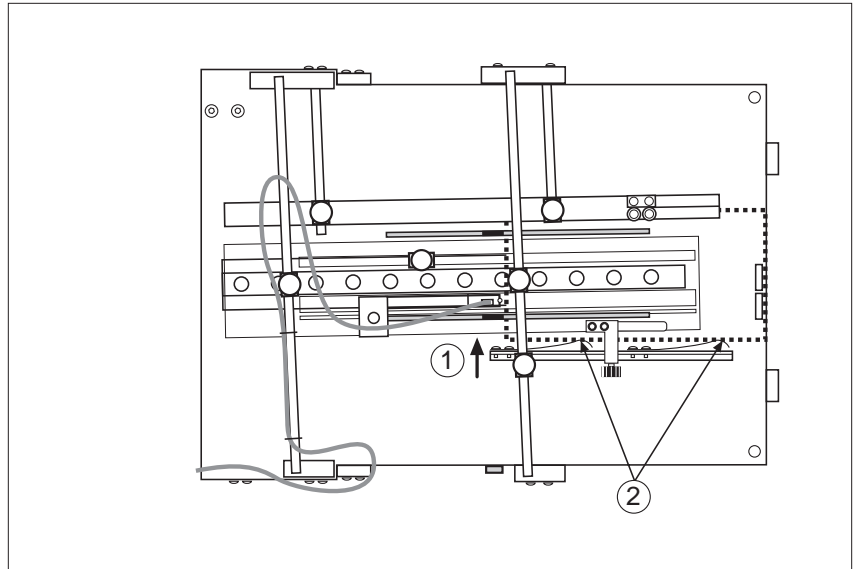

Figure 19. Adjust the Front Tension Springs
2. Slide the rail with the alignment springs toward the envelope (Figure 19, ①) until the curved sections of the horizontal alignment springs lightly touch the outside edge of the envelope (Figure 19, ②).